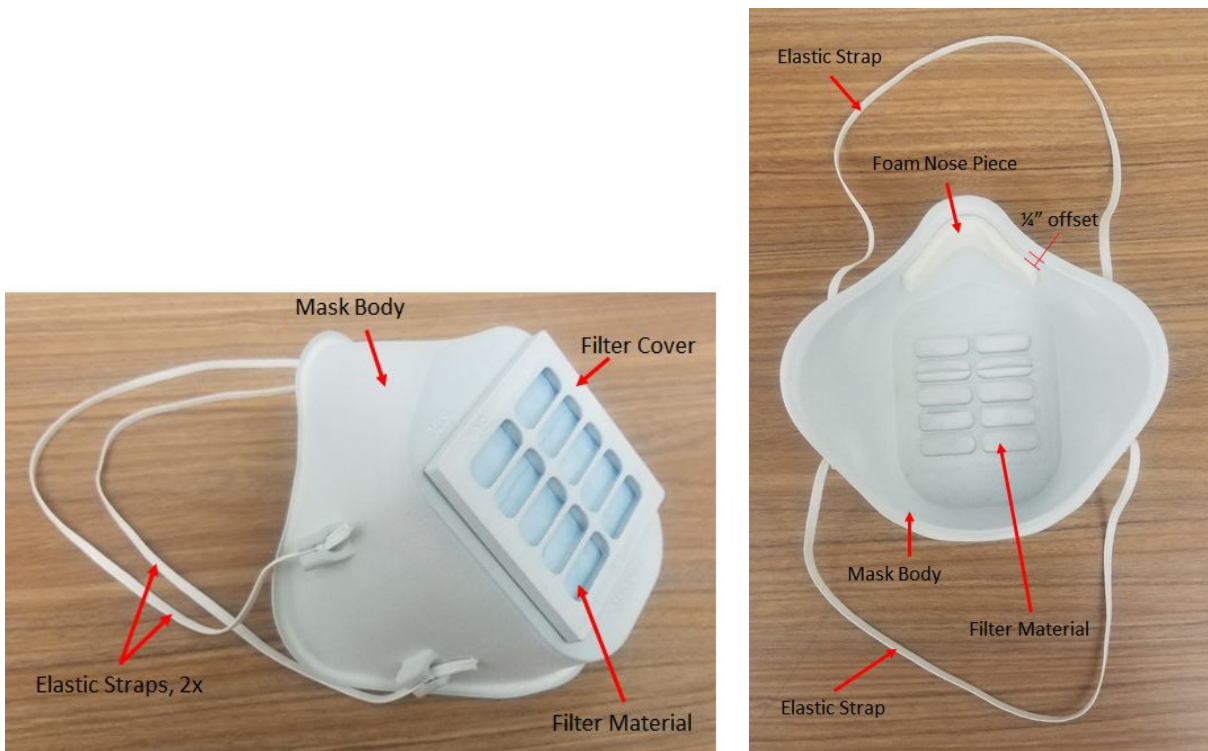

Fig. 3
9. Take one strip, approximately 3" long, of the adhesive backed foam and remove the protective sheet on the back to reveal the adhesive. Stick the foam strip to the inside of the nose feature of the mask, making sure that it is offset  $>1/4$ " to the inside of the edge of the mask as shown in Fig 3. Be sure the foam is placed far enough to the inside so it isn't interfering with the seal of the mask once donned. The mask should seal by the hard plastic rim touching the skin.
11. Do a final inspection of the mask with all components assembled to ensure nothing is damaged or dirty and everything has been assembled properly as shown in Fig 3 below. Take special note to ensure filter cover to ensure the filter patch completely covers all the filter grill holes. **DO NOT USE THE MASK OR ANY COMPONENTS IF THERE IS ANY VISIBLE DAMAGE.** If any components are visibly damaged, properly dispose of the component and get a replacement.